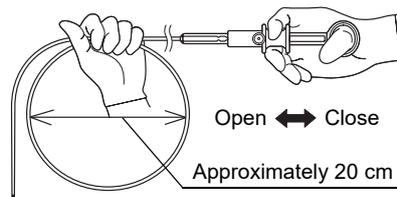

Figure 2
1. Holding the instrument as shown in Figure 2, form a loop in the insertion portion approximately 20 cm in diameter.